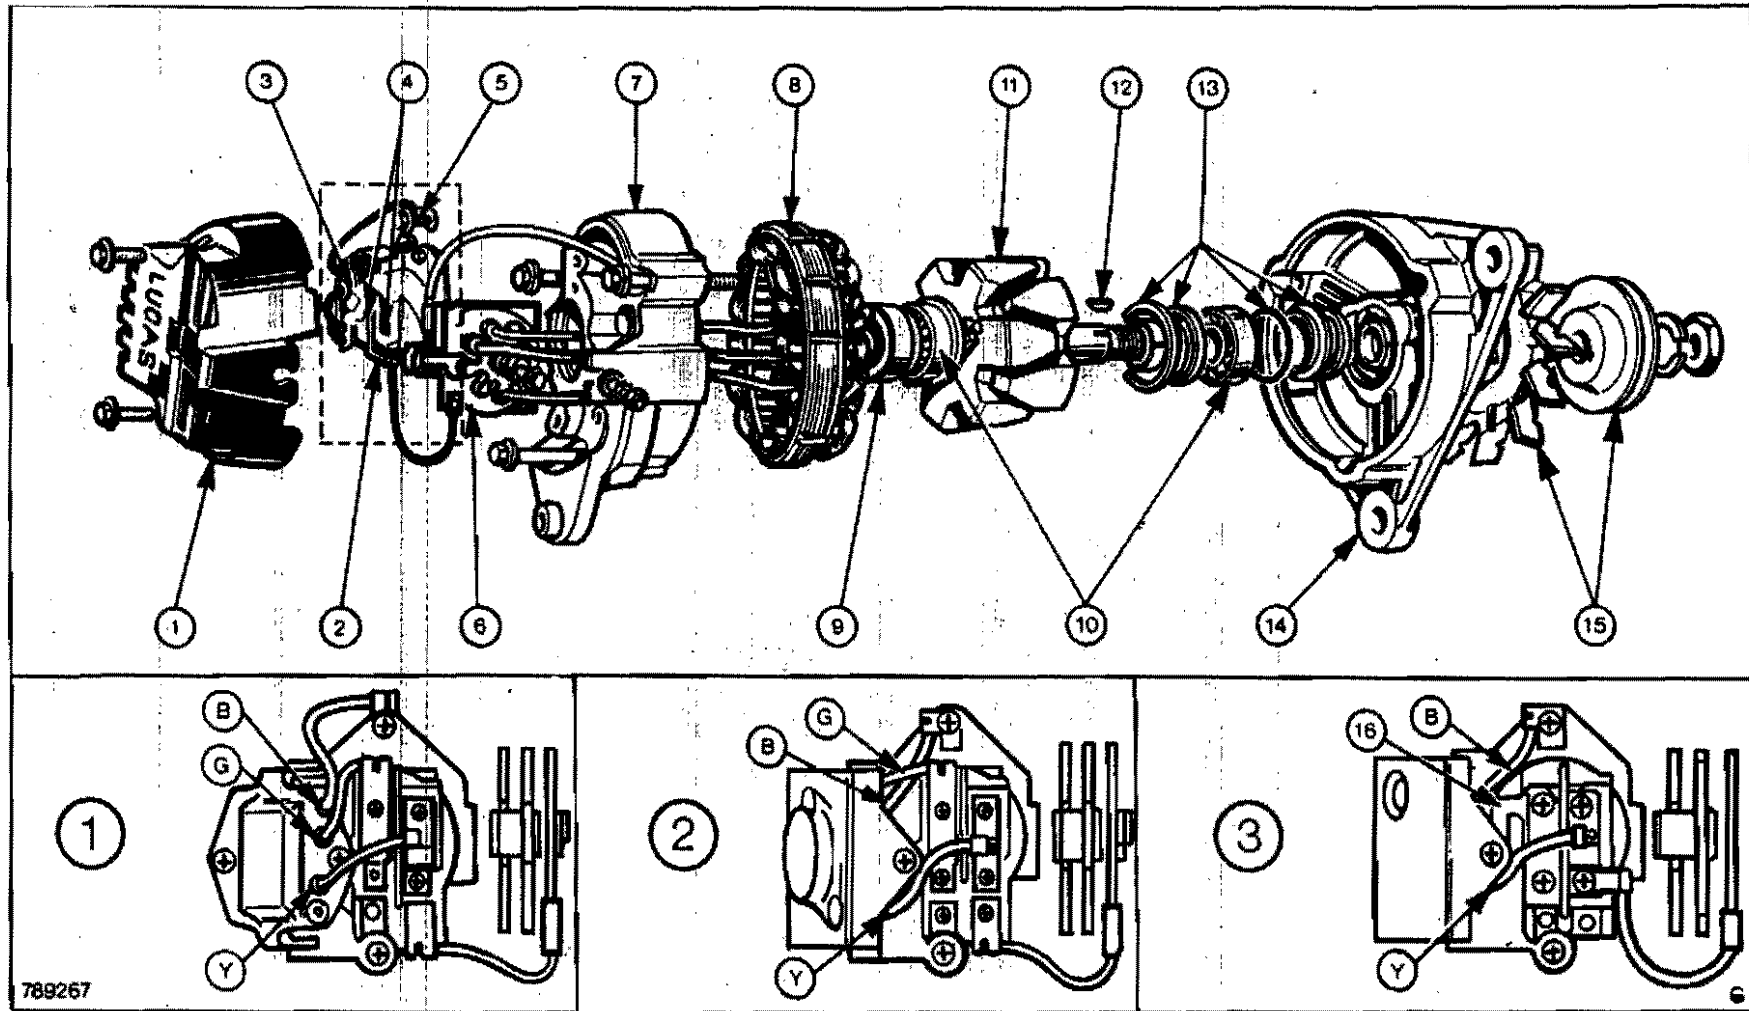

Fig. 35 – Machine-sensing system, 17ACR alternator
- (i) 8TR or 11TR 4-lead regulator (see Fig. 35).
- (ii) 8TR or 11TR 3-lead regulator (see Fig. 35).
- (iii) 14TR 2-lead regulator (see Fig. 35).